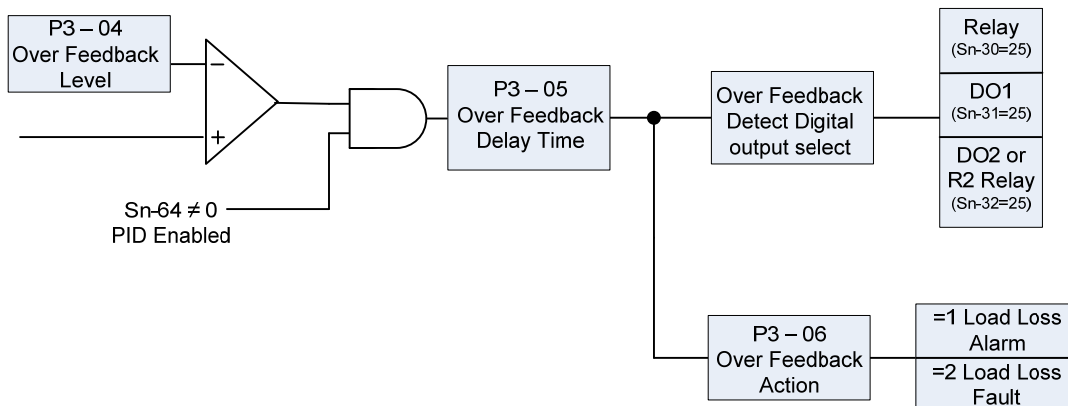

Fig. 1.5.1 Over Feedback Signal Function
- Fig.1.5.1 below is a block diagram illustrating the Over Feedback Detection Function.